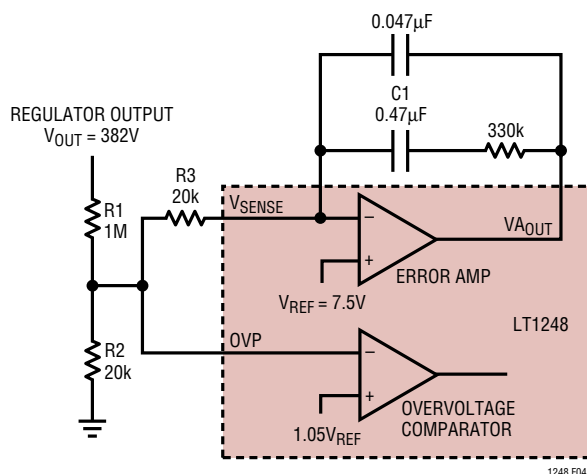

Figure 4
**Pin 8 (OVP):** This is the input to the overvoltage comparator. The threshold is  $1.05$  times the reference voltage. When the comparator trips, the multiplier is quickly inhibited and outputs no current. Figure 4 in the Applications Information section shows how to set overvoltage threshold with only one additional resistor.
Because of the slow loop response necessary for power factor correction, output overshoot can occur with sudden load removal or reduction. To protect the power components and output load, the LT1248 provides an overvoltage comparator which senses the output voltage and quickly shuts off the current switch. In Figure 4, because there is no DC current going through  $R_3$ ,  $R_1$  and  $R_2$  set the regulator output DC level:  $V_{OUT} = V_{REF}[(R_1 + R_2)/R_2]$ , with  $R_1 = 1M$ ,  $R_2 = 20k$ ,  $V_{OUT}$  is 382V.